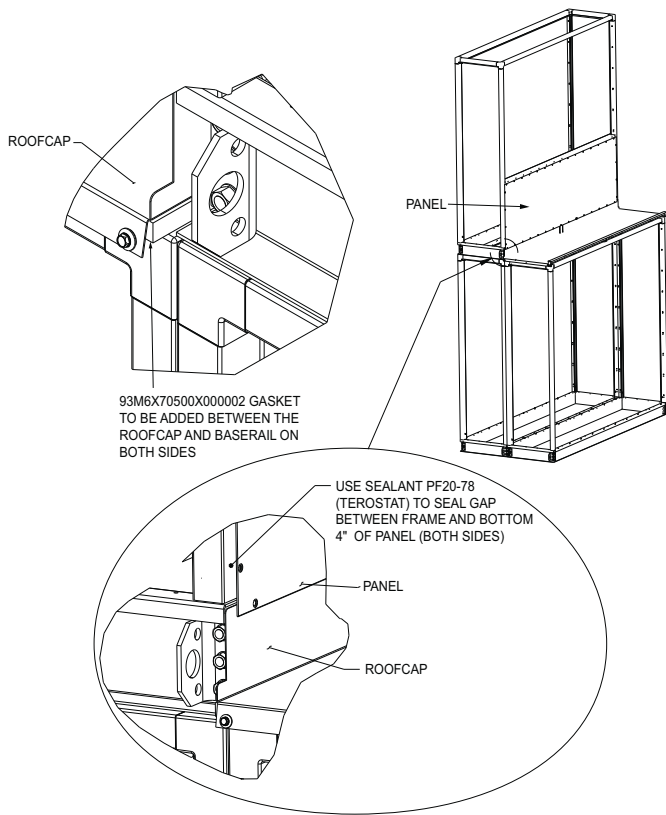

Fig. 165 — Remove Lower Panel
2. Remove screws securing the lower panel to the frame rail on the outlet wall supply air module. Save screws and panel for reinstallation. See Fig. 165.